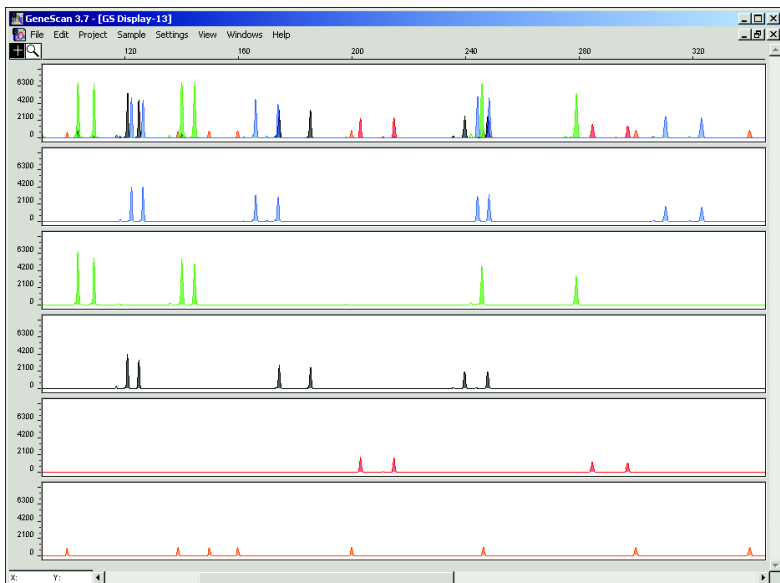

Figure 4-11 Quick Tile Off and Quick Tile On options
- The Quick Tile Off format provides the option of displaying results either for multiple colors within a single lane or injection, or from multiple lanes or injections in the same panel (*i.e.*, the results are overlaid), as shown in panel 1 of Figure 4-11.
- The Quick Tile On format displays each color of each lane or injection separately, as shown in panels 2–5 of Figure 4-11.